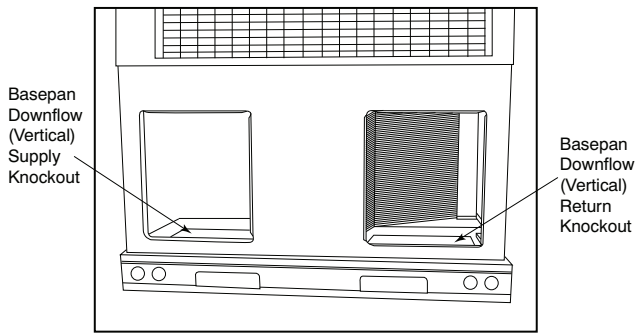

Fig. 11 - Supply and Return Duct Opening
2. Remove horizontal (metal) ductcovers to access vertical (downflow) discharge duct knockouts in unit basepan. (See Fig. 11.)
NOTE: These panels are held in place with tabs similar to an electrical knockout. Reinstall horizontal duct covers (Fig. 11) shipped on unit from factory. Insure openings are air and watertight.